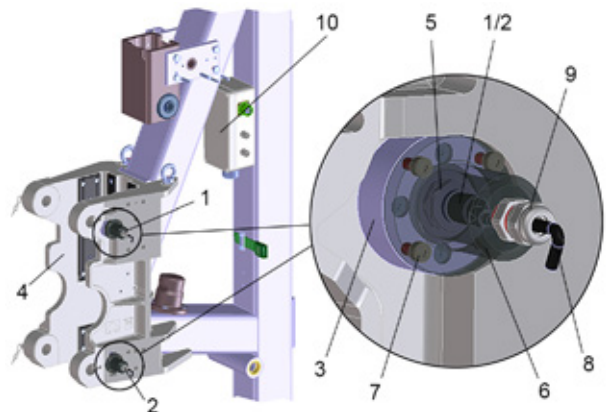

fig. 8-24
- To do this, unscrew the cylinder screws (2) and remove the ratchet disc from the gear (3).
- To assemble the gear motor, proceed as described in figure 8-24.